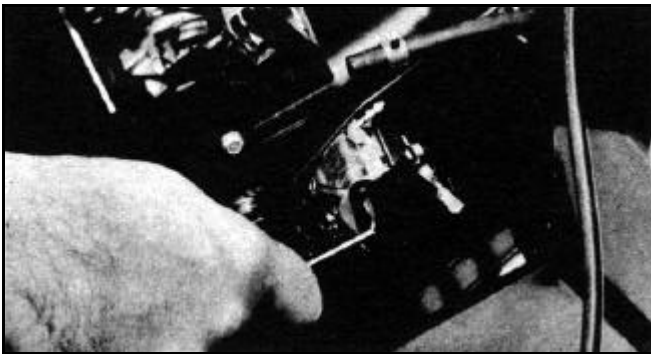

Figure 215
9. Install the carburetor onto the engine backing plate with a new carburetor gasket and a new spitback cup gasket. Torque the carburetor mounting screws at 35 - 40 in·lbs (.4 - .45 Kg·in) (Figure 215).